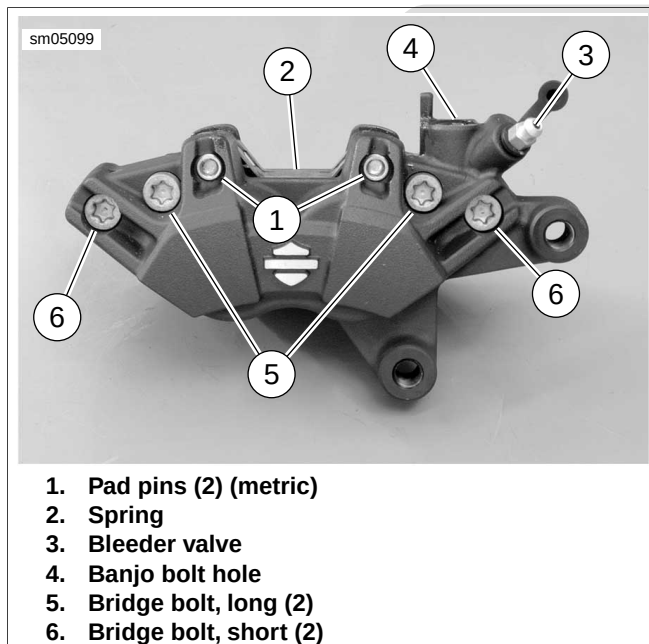
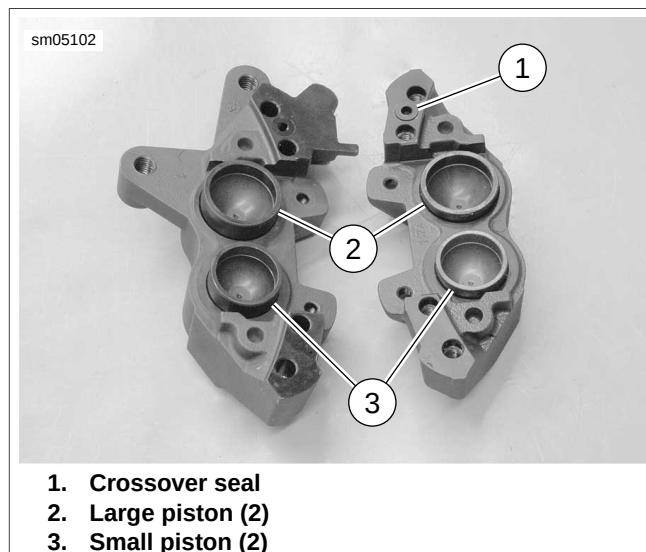

Figure 2-98. Preparing Caliper for Piston Removal
Figure 2-100. Caliper Housings and Pistons
1. See Figure 2-98. Remove brake pad pins (1) and anti-rattle spring (2).
2. Slide one brake pad out of caliper assembly. Do not remove bleeder valve (3) at this time.
3. With one brake pad in the caliper, loosely install brake pad pins (1) to hold brake pad in place.
4. See Figure 2-98. Gently apply low pressure compressed air to banjo bolt hole (4) to force pistons from caliper bores.
9. See Figure 2-98. If necessary, remove bleeder valve (3).
3. See Figure 2-100. Carefully insert pistons (2, 3) by hand, nose radius first, into caliper bores. If installation shows resistance, remove piston(s) and check that seals are properly installed and fully seated in grooves. Press pistons completely into bores.
4. Install **new** crossover seal (1).
5. See Figure 2-98. Apply a drop of LOCTITE 569 Sealant to the threads of the bridge bolts (5, 6). Assemble caliper housings and secure with bridge bolts. Ensure the bridge bolts are in the correct locations based on length. Tighten bridge bolts to 12-18 ft-lbs (16.9-24.5 Nm).